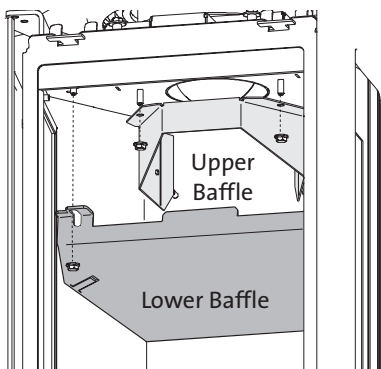

Figure 5. LP / Baffle Conversion
- Remove two, 6 mm nuts to detach the Lower Baffle. You do not need to remove the baffle from the firebox. See Fig. 5.